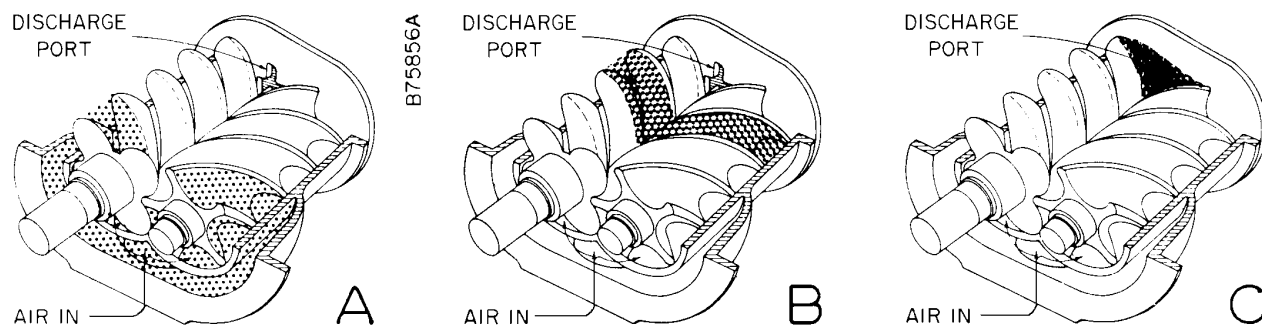

FIGURE 1-1 – COMPRESSION CYCLE
COMPRESSION PRINCIPLE (FIGURE 1-1) – Compression is accomplished by the main and secondary rotors synchronously meshing in a one-piece cylinder. The main rotor has four (4) helical lobes 90° apart. The secondary rotor has five (5) matching helical grooves 72° apart to allow meshing with main rotor lobes.
The air inlet port is located on top of the compressor near the center. The discharge port is near the bottom at the opposite end of the compressor cylinder. FIGURE 1-1 is an inverted view to show inlet and discharge ports. The compression cycle begins as rotors unmesh at the inlet port and air is drawn into the cavity between the main rotor lobes and secondary rotor grooves (A). When rotors pass the inlet port cutoff, air is trapped in the interlobe cavity and flows axially with the meshing rotors (B). As meshing continues, more of the main rotor lobe enters the secondary rotor groove, normal volume is reduced and pressure increases. Oil is injected into the cylinder to remove the heat of compression and seal internal clearances. Volume reduction and pressure increase continues until the air/oil